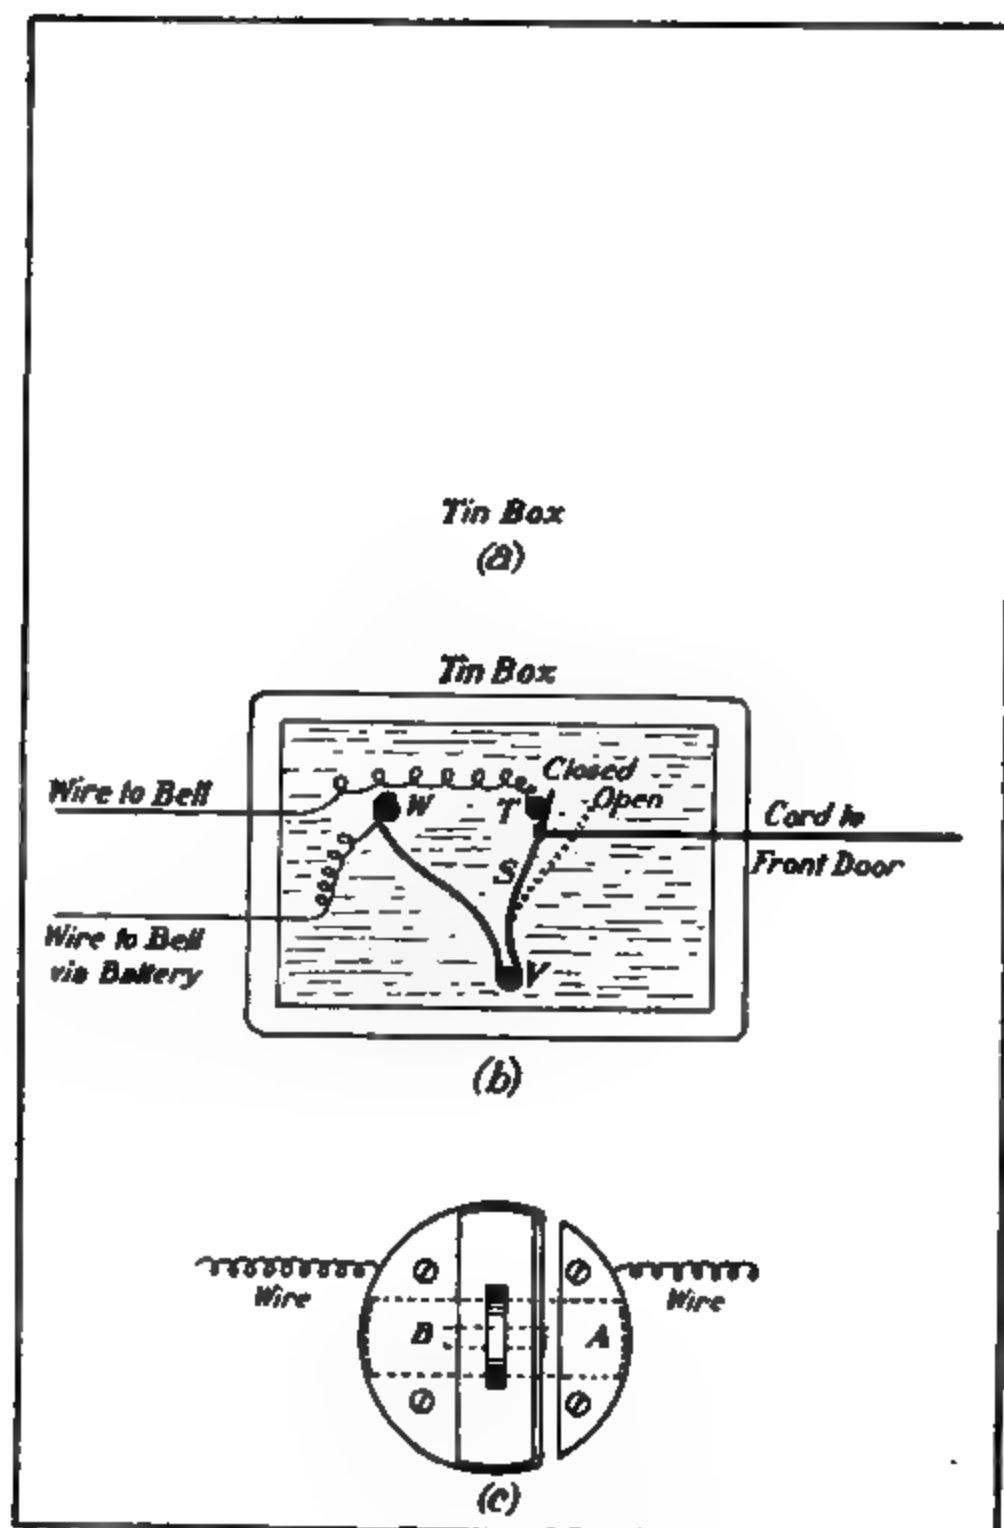

Fig. 123.—(a) Electric relay; (b) burglar alarm; (c) switch.
small block of wood and an ordinary lock spring (price about one penny). The spring is attached to the block by a screw, V (Fig. 123, *b*), and is kept partly expanded by two screws, W and T, driven into the wood. These two screws have soldered to them the two wires of the bell and battery circuit.
Fig. 123, *a*, is a plan of the relay and its connections. It should be stated that the apparatus is vertical, just as it faces the reader, if he hold the page upright.
*A Disconnecting Switch.*—To prevent the alarm operating the bell during the day, a switch must be included in the circuit. A very simple but effective switch can be made out of brass cup-board-turn of the kind illustrated in Fig. 123, c. The smaller part, A, should be so fixed that it does not touch the larger, B, on which is the turn-button, and be raised a little higher, so that the turn-button has to “climb” it and make a good contact. If the nearer edge of A be slightly bevelled off, closing the switch will be easier.